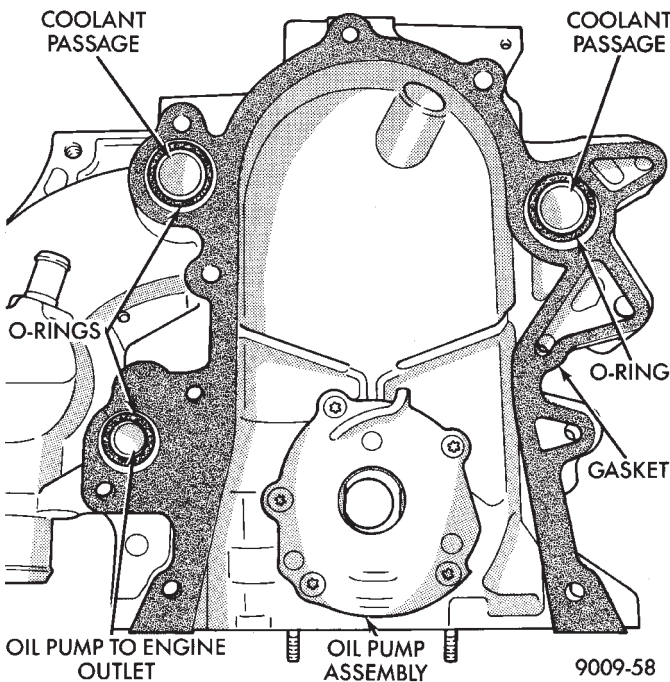

Fig. 44 Timing Chain Case Cover Gaskets and O-Rings
- (2) Use a new cover gasket, and O-rings. (Fig. 44).
- (3) Rotate crankshaft so that the oil pump drive flats are vertical.
- (4) Position oil pump inner rotor so the mating flats are in the same position as the crankshaft drive flats (Fig. 44). Do not install front crankshaft seal into timing chain cover at this time.
- (5) Install cover onto crankshaft. Make sure the oil pump is engaged on the crankshaft correctly or severe damage may result.